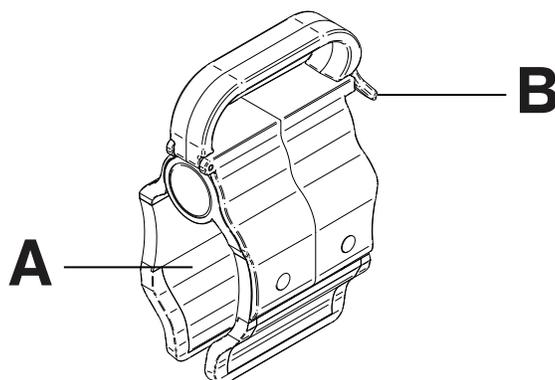

Figure 123: Line management clip
1. Open the clip (A) (Figure 123 on page 107).
1. Raise the clip prong (B) (Figure 123 on page 107).